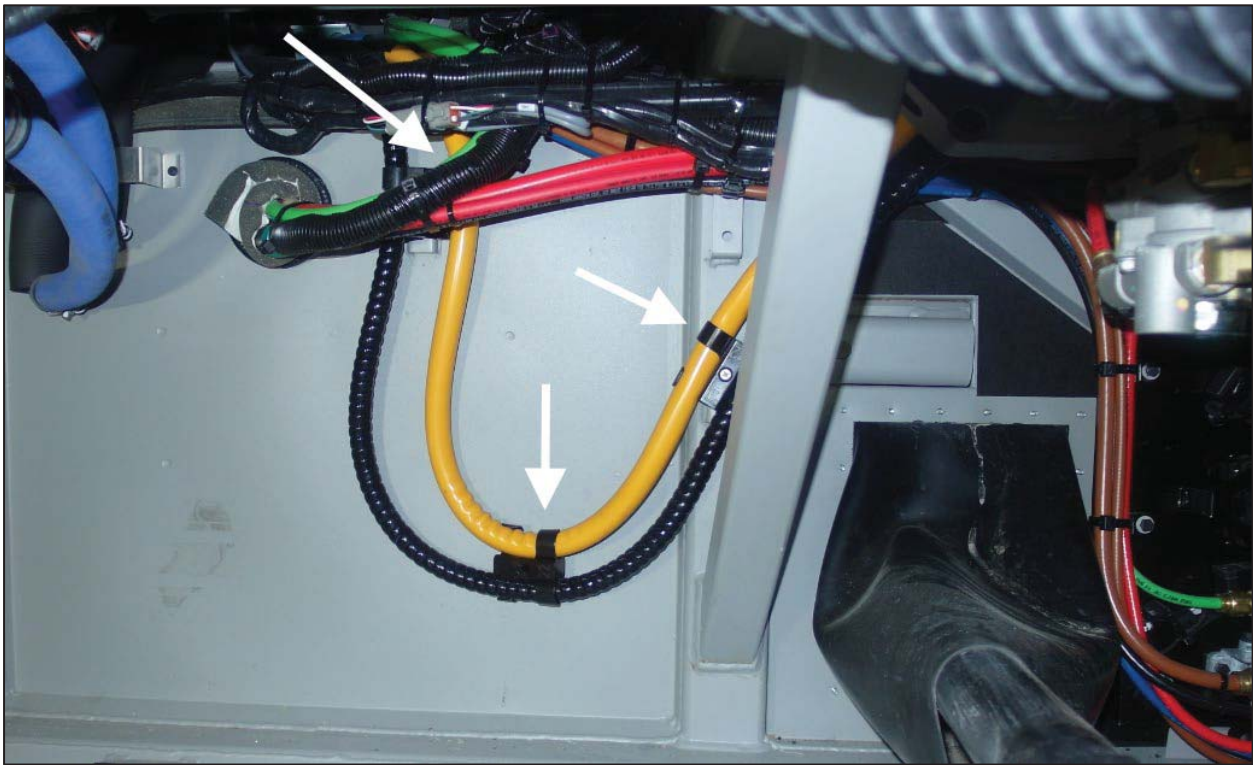
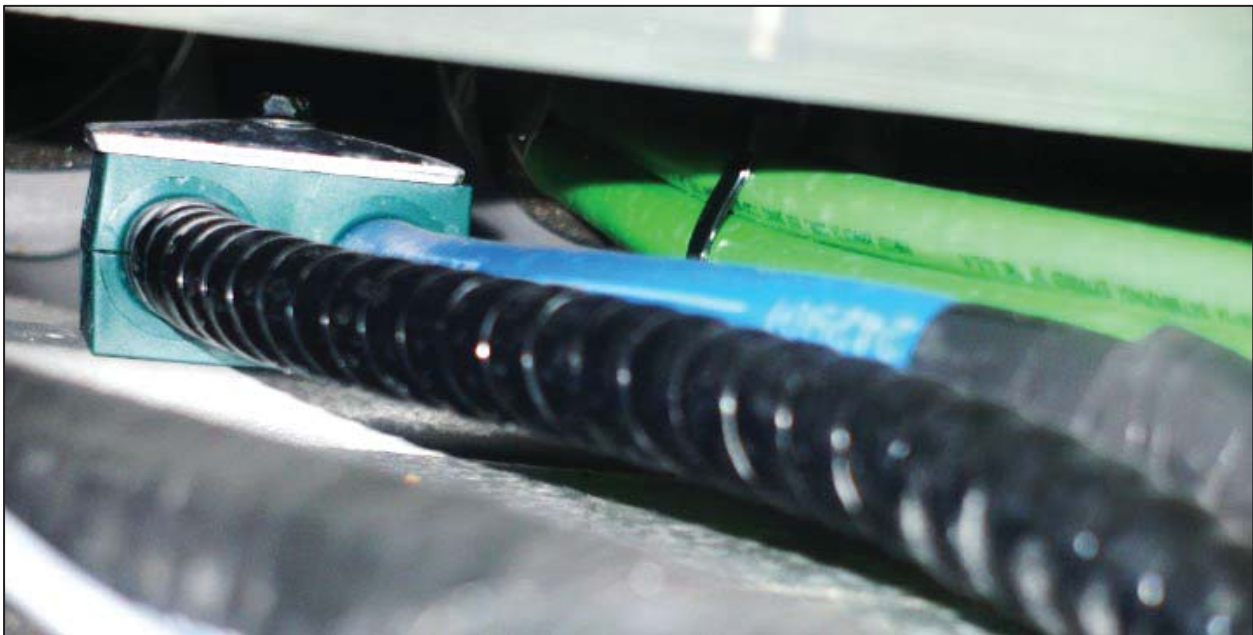

Figure 5: Hose guides on fore wall of front axle well
Figure 6: Block clamp in the tunnel leading to the first luggage bay.
From the spare tire compartment, the following hose routing hardware is accessible: three (3) P-clamps (Fig 4), three (3) hose guides (Fig. 5) and one (1) block clamp (Fig. 6)